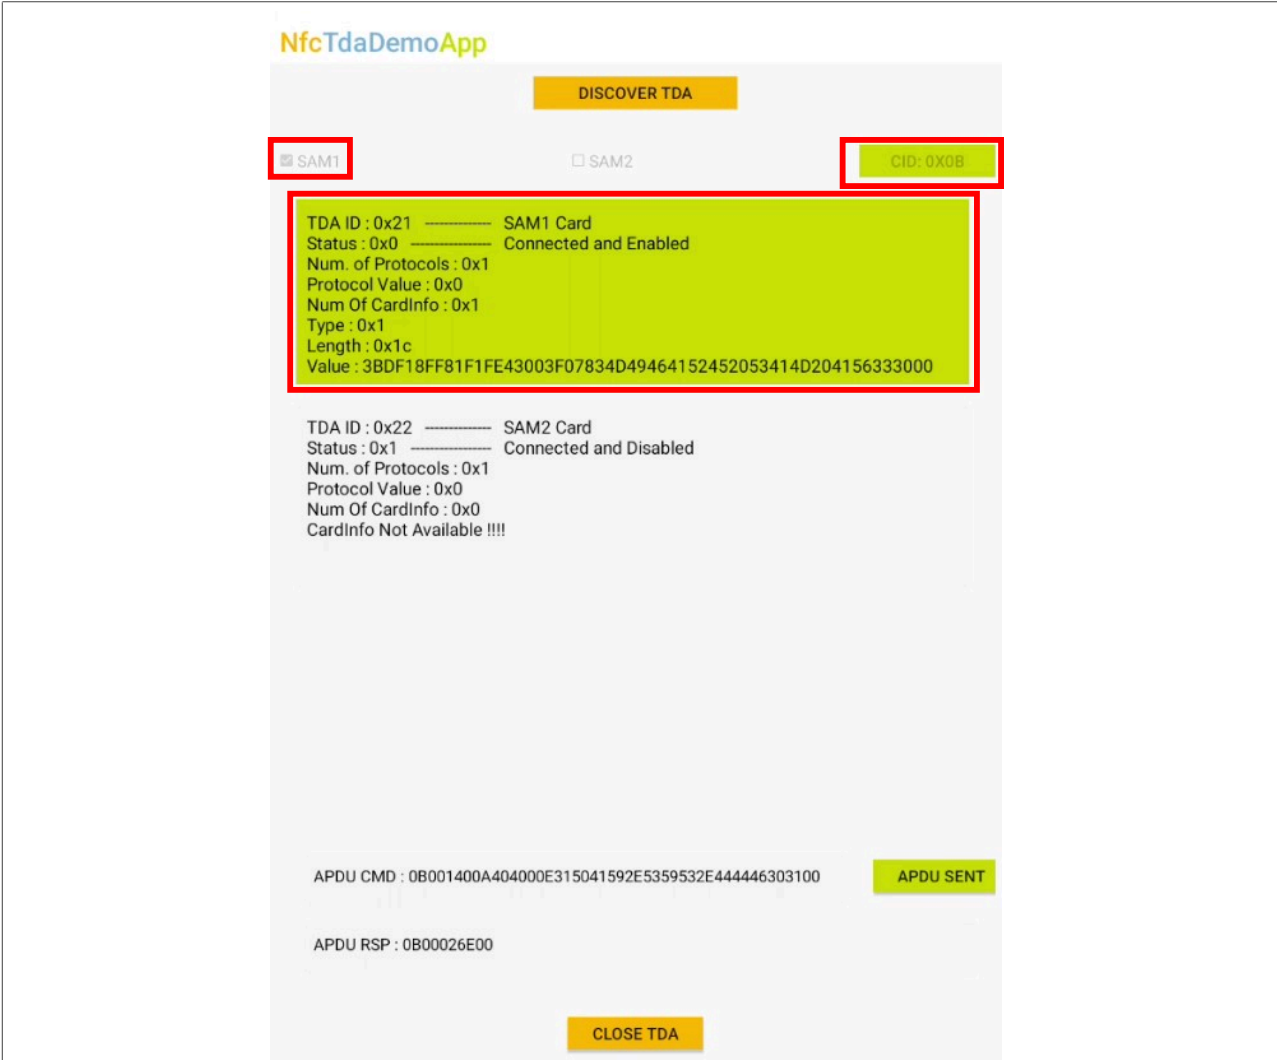

Figure 40. Open a specific SAM slot
3. Select the SAM slot and click "OPEN TDA". See Figure 40.